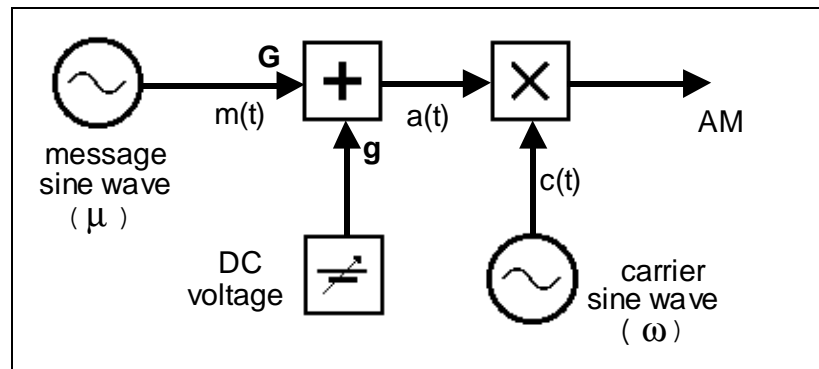
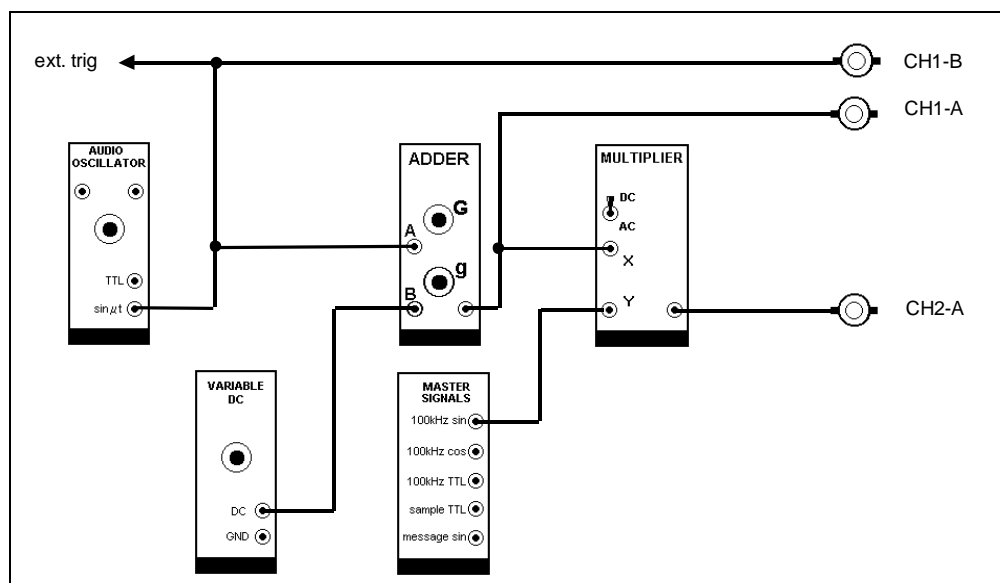

Figure 2: generation of equation 2
Figure 6: the TIMS model of the block diagram of Figure 2
A block diagram representation of eqn. (2) is shown in Figure 2 below.
For the first part of the experiment you will model eqn. (2) by the arrangement of Figure 2. The depth of modulation will be set to exactly 100% ($m = 1$). You will gain an appreciation of the meaning of 'depth of modulation', and you will learn how to set other values of 'm', including cases where $m > 1$.
Provided $m \leq 1$ the envelope of the AM will always be a faithful copy of the message. For the generation method of Figure 2 the requirement is that:
The block diagram of Figure 2, which models the AM equation, is shown modelled by TIMS in Figure 6 below.
- T1** first patch up according to Figure 6, but omit the input **X** and **Y** connections to the **MULTIPLIER**. Connect to the two oscilloscope channels using the **SCOPE SELECTOR**, as shown.
- Q4** if the AC/DC switch on the MULTIPLIER front panel is switched to AC what will the output of the model of Figure 6 become ?*